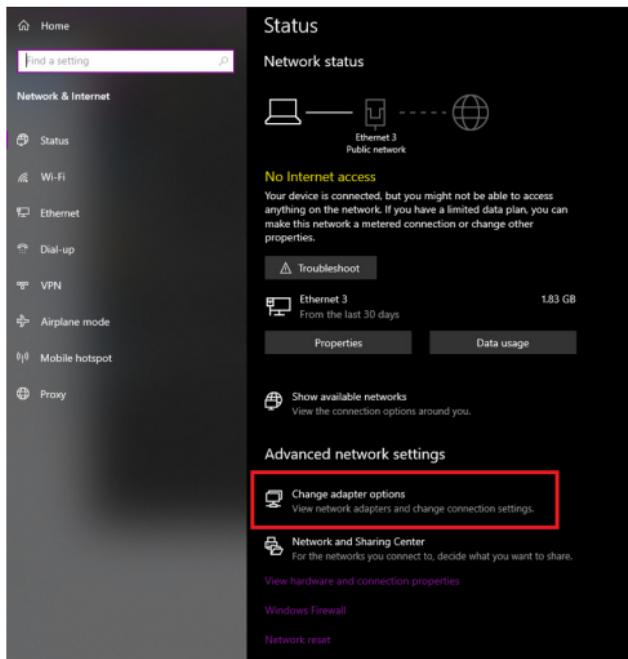

Figure 5
6. Click **Change adapter options**. (Figure 5)